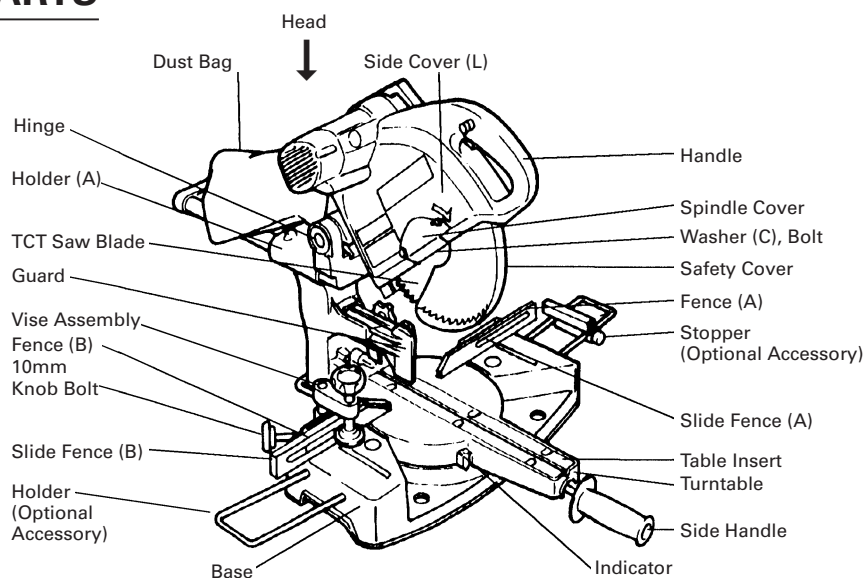

Fig. 1
- ① Extension Holder and Stopper (Fig. 1) (Code No. 998866)
- ② Saw blade 10" (255mm) TCT Saw blade (Total teeth: 72) (Code No. 725206)
- ③ Vise (A) Assembly (Code No. 308394)